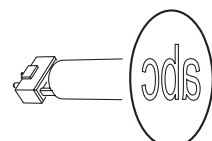
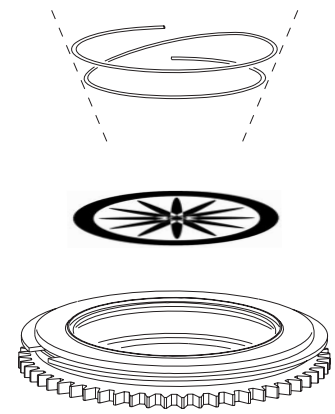

Figure 11. Correct gobo orientation
Figure 12: Rotating gobo holder
The orientations shown in Figure 11 are correct in most cases, but consult your Martin dealer or gobo supplier if you are in any doubt about the orientation of a specific gobo type.
4. Insert the new gobo in the holder with the side that faces towards the lamp facing upwards, towards the spring (see Figure 11 and Figure 12).
5. Insert the spring with the narrow end against the gobo, as shown in Figure 12. To identify the narrow end, press the spring flat: the narrow end is on the inside. Push the end of the spring in under the lip of the holder.
4. To insert a gobo, orient the gobo as shown in Figure 11 and place the edges under the retention spring. Verify that the gobo is centered in the opening.